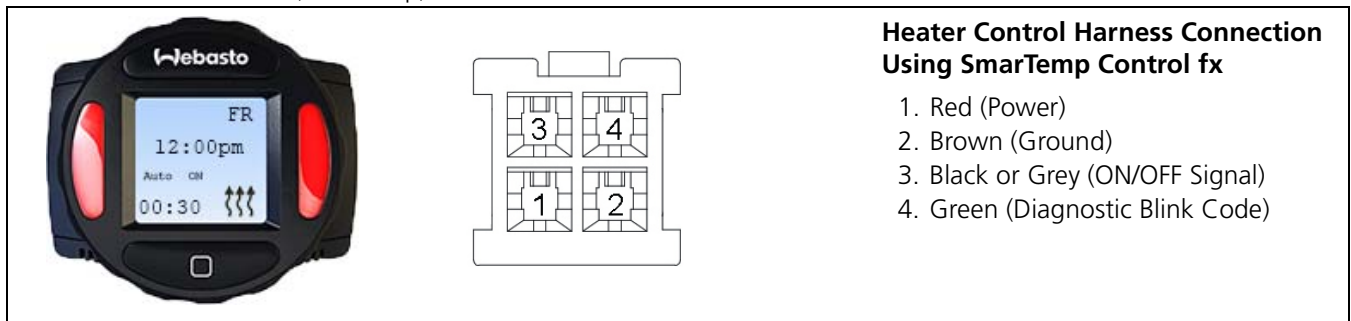

Figure 30: 7-Day, 4 Program SmarTemp Control fx Timer
- Timer, see circuit diagrams in Figures 30 and 34.